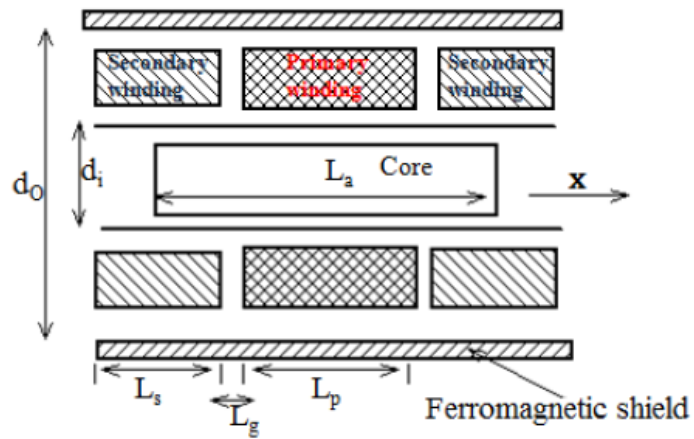

Figure 4
**Answer questions 5 to 9 based on Figure 4**
A LVDT is to be designed with the following specifications (Refer to Figure 4):
(Hint: Find expression for  $L_s$  from different length parameters (i.e.,  $L_a$ ,  $L_p$  and  $x$ ) given in Figure 4)
Assume the following parameter-values for an LVDT (Refer to Figure 4):